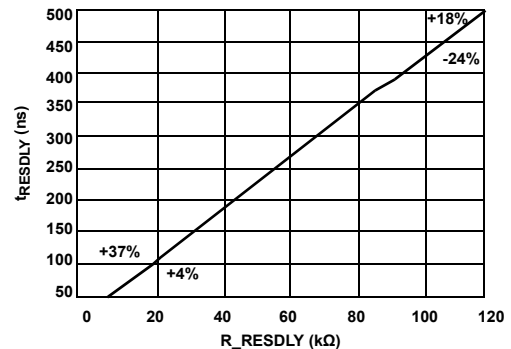

FIGURE 10. $R_{RESLDLY}$ vs $RESLDLY$
- Figure 10 illustrates the relationship of the value of the resistor ($R_{RESLDLY}$) and the resonant delay ($t_{RESLDLY}$). The percentages in the figure are the tolerances at the two end points of the curve.